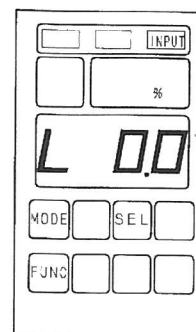

Fig. 5.1 (1)
- (2) Press the [SEL] key twice, 4-digit display on the left is "L" the display. (Fig. 5.1 (1))
- (3) If the [FUNC] key is pressed while the [SEL] key is being pressed down, the display mode is switched. The panels display by pressing the [FUNC] + [SEL] key one times to a 4-digit display on the left the "LS". (Fig. 5.1 (2))